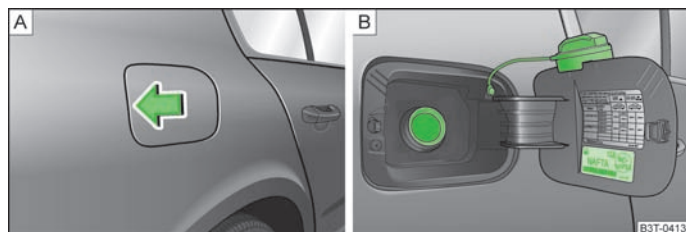

Fig. 132 Right rear side of the vehicle: Open fuel filler flap/fuel filler flap with cap unscrewed
The correct type of fuel for your vehicle and the tyre size and inflation pressure are specified on the inside of the fuel filler flap » Fig. 132 - B.
- Press in the middle of the left area of the fuel filler flap » Fig. 132 - A.
- Unscrew the filler cap by turning it to the left and place the cap onto the top of the fuel filler flap » Fig. 132 - B.